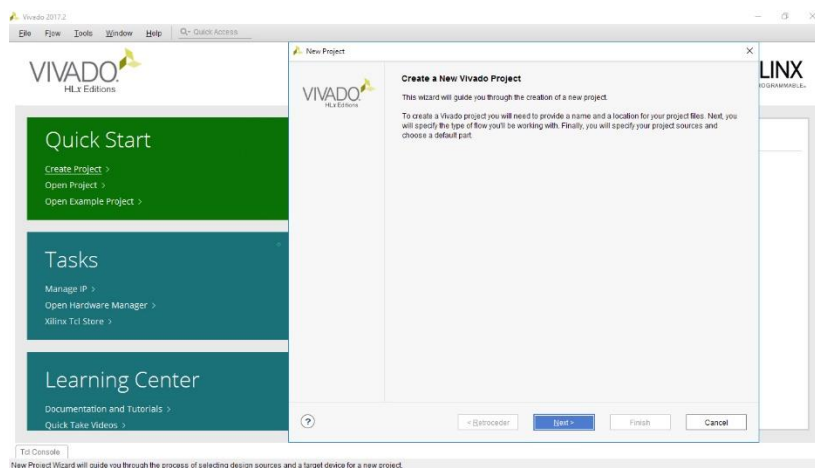

Figure 2
1. In the **Quick Start** toolbar click **Create New Project** or select **File → Project → New...** in the Vivado menu bar; the **New Project** wizard appears (Figure 2)